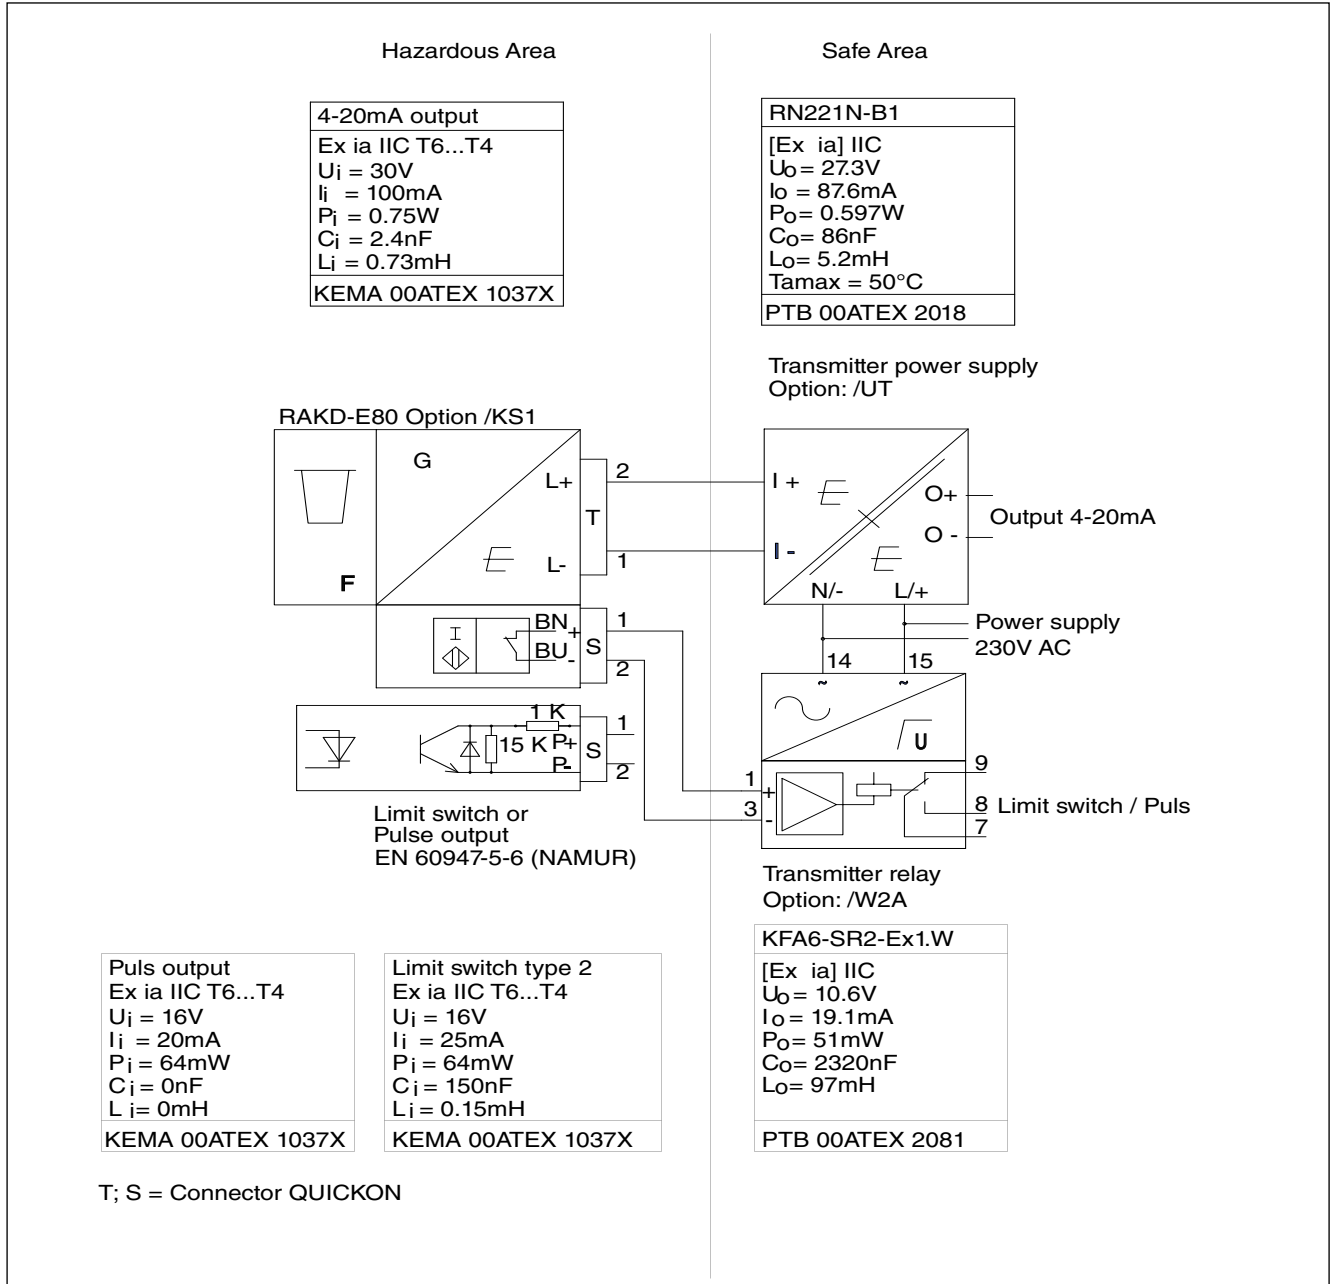

Fig. 5 ATEX- version of RAKD with electronic transmitter with power supply and limit switch or pulse output in combination with transmitter relay
see fig. 5
**Control circuit (ATEX):** [Ex ia] IIC; group II; category (1)GD
**Entity parameter:** see fig. 5 (ATEX) and certificate
For option /KS1 or /KN1 (Ex-i-versions ATEX) the maximum values for ambient and process temperature according to the respective temperature class mentioned in fig. 5 and table 7 must be regarded.